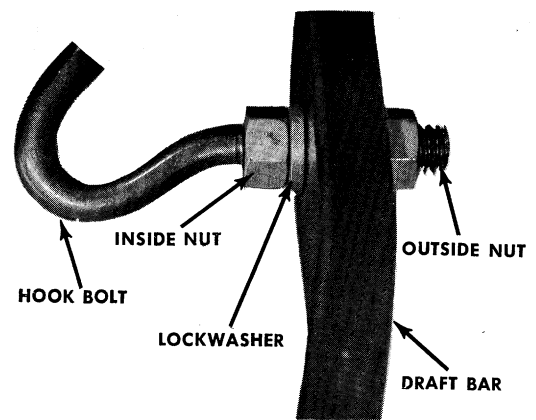

FIGURE 7. HOOK BOLT ASSEMBLY
Step 6. Screw one hex nut all the way on each of the hook bolts. See Figure 7.
Step 10. Tighten the inside nut. See Figure 7.